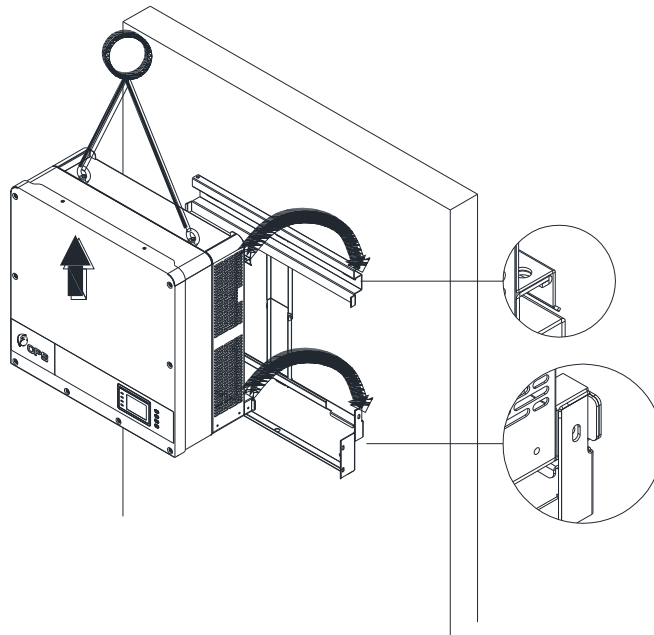
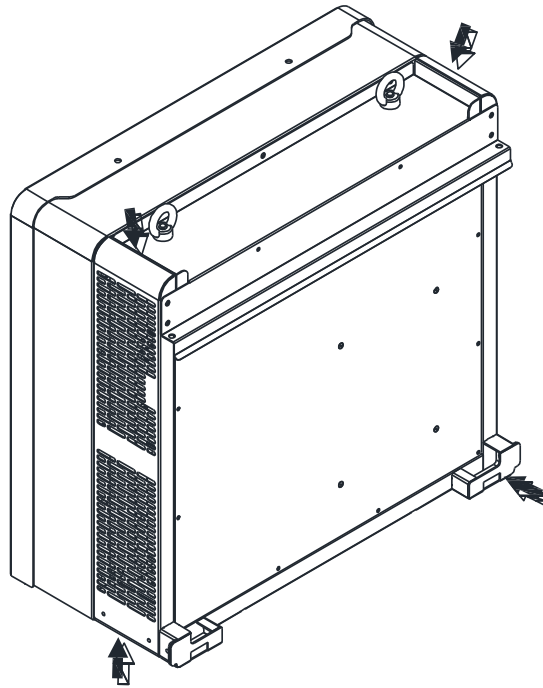

Figure 3-8 Mount the Main Enclosure on the Bracket by Lifting Sling
Figure 3-9 Grab Handle Position
2. Hang the inverter onto the mounting bracket as shown in Figure 3-8 and Figure 3-9;
- b. Manual mounting: Two people are required to safely lift the inverter by the handle positions marked in Figure 3-9, and mount it onto the bracket.